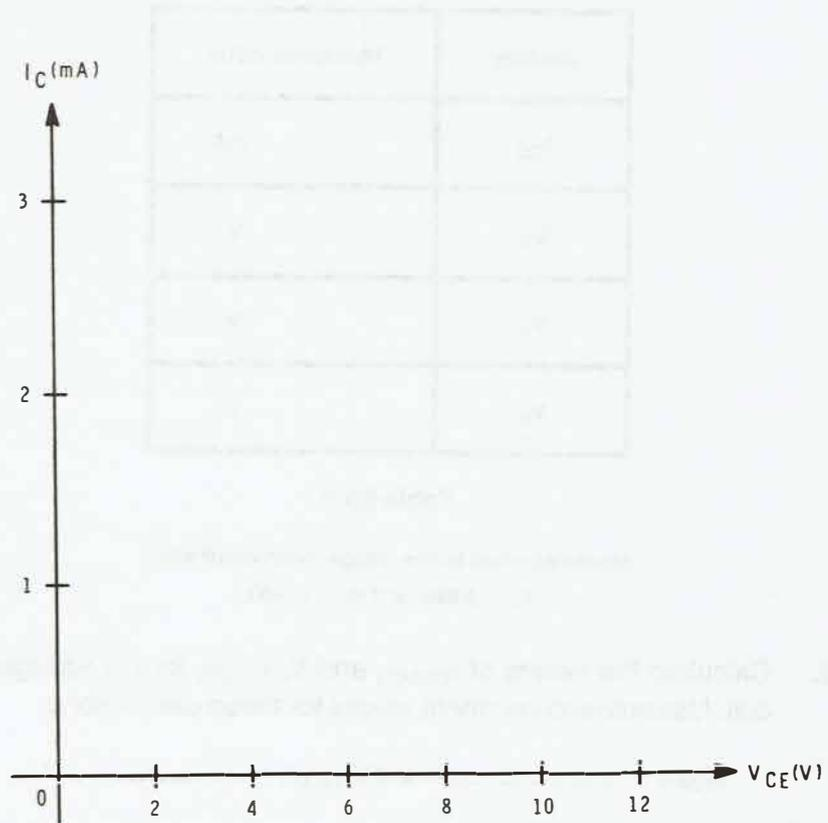

Figure E3-3
9. Using the values calculated in step 8, sketch the circuit's DC load line in Figure E3-3. Indicate the location of the operating point, Q_1 , based on the data from Table E3-1. Also, indicate the location of the operating point, Q_2 , based on the data from Table E3-2.
Consequently, your load line, in Figure E3-3 should connect these two points. The operating point, Q_1 , should be near the center of the load line. Also, since the loading of the voltage divider is excessive, the second operating point, Q_2 , should be near the cutoff point.